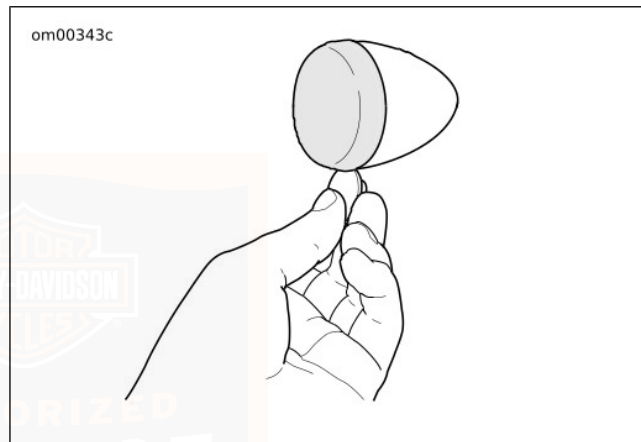

Figure 94. Remove Lens
1. See Figure 94. Insert coin in notch. Carefully twist until the lens cap pops out of the lamp housing.